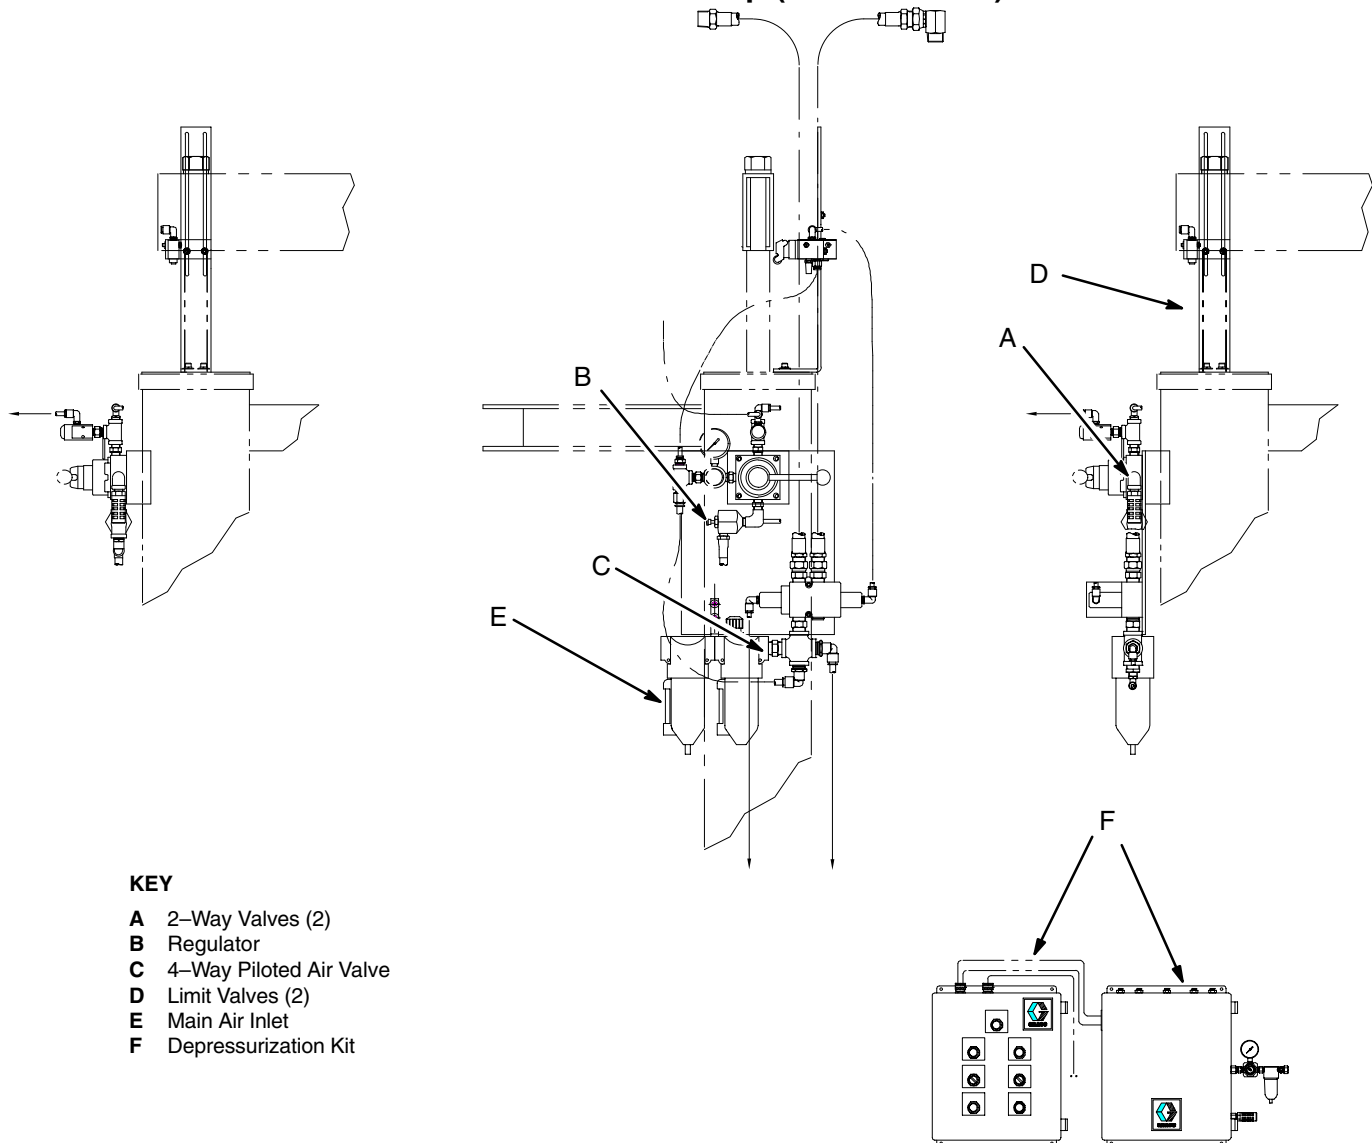

Fig. 4
Install the pneumatic crossover as shown in Fig. 4.
NOTE: The position of the limit valve (D) on the ram determines when the ram air motor is turned on and off. During operation, this position can be adjusted as desired. See Fig. 4.
Install the pneumatic crossover and depressurization kit as shown in Fig. 4. Refer also to manual 310293.